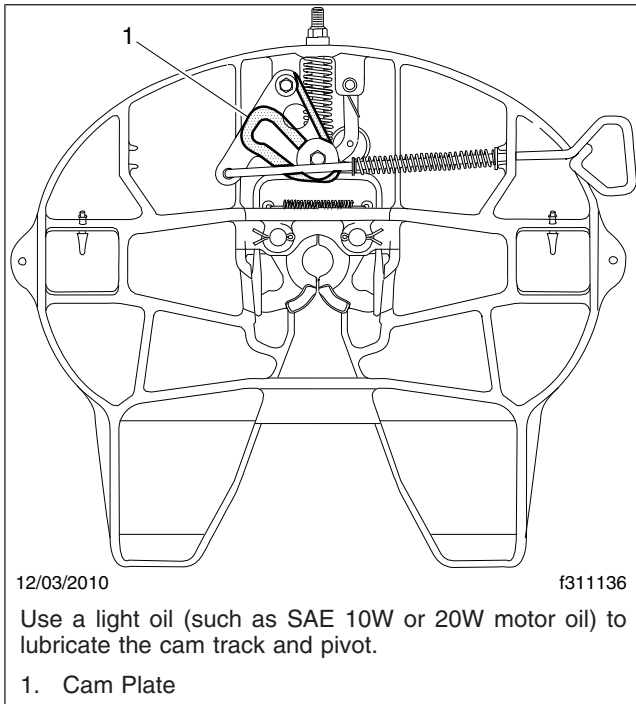

Fig. 11, Holland FW35 Fifth Wheel, Oil Lubrication
2. Using a light oil (such as SAE 10W or 20W motor oil), lubricate the cam track and pivot. See **Fig. 11**.